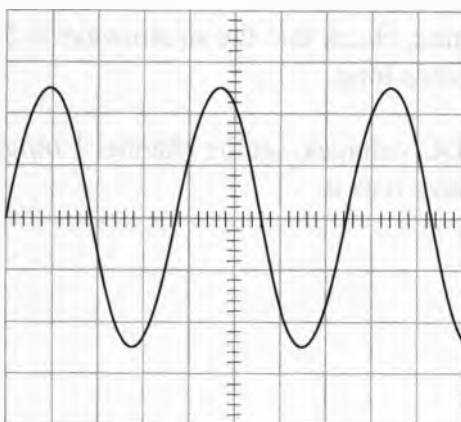

Figure 1c
1. Adjust the *Vertical Attenuation* control (the volts/div knob) so that the signal you want to measure is as big as it can be on the screen without being too big (see Figure 1c below).